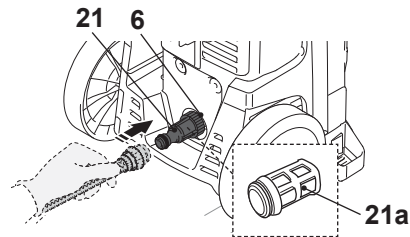

Fig. 15
1. Attach the water inlet hose adaptor (21) on the water inlet (6) (Fig. 15).
2. Attach a suitable water hose (not included) onto the water supply and then the other end onto the water inlet hose adaptor (21).